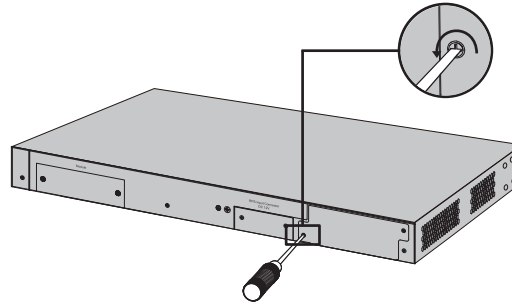

Figure 3-4 Removing the Protective Cover
2. Use a Phillips screwdriver to loosen the mounting screws of the protective cover on the interface card slot of the switch and remove the protective cover, similar to the procedure shown in Figure 3-4.